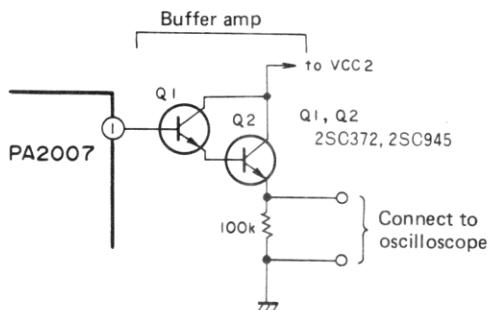

Fig. 12-6 Connect buffer amp
2. Connect a buffer amp to pin 1 of IC PA2007, and connect the output to a oscilloscope (Fig. 12-6).